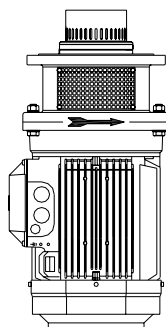

Figure 6.1
- Check that the direction of rotation of the impeller is correct (it must rotate clockwise looking from the drive side. See figure 6.1.